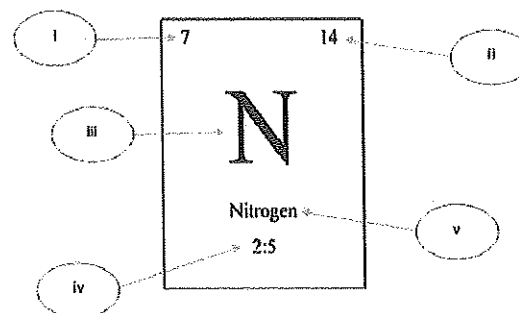

Figure 1(b) / Rajah 1(b)
b) Identify the element in the Periodic Table as shown in **Figure 1(b)**: